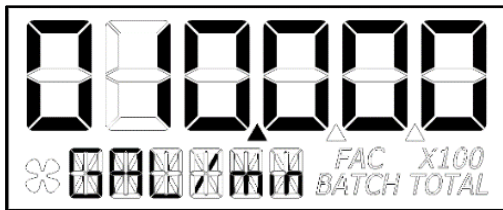

Figure 29-4
**NOTE:** Figure 29-4 shows the display when changing "span" or 20mA Flowrate Settings.